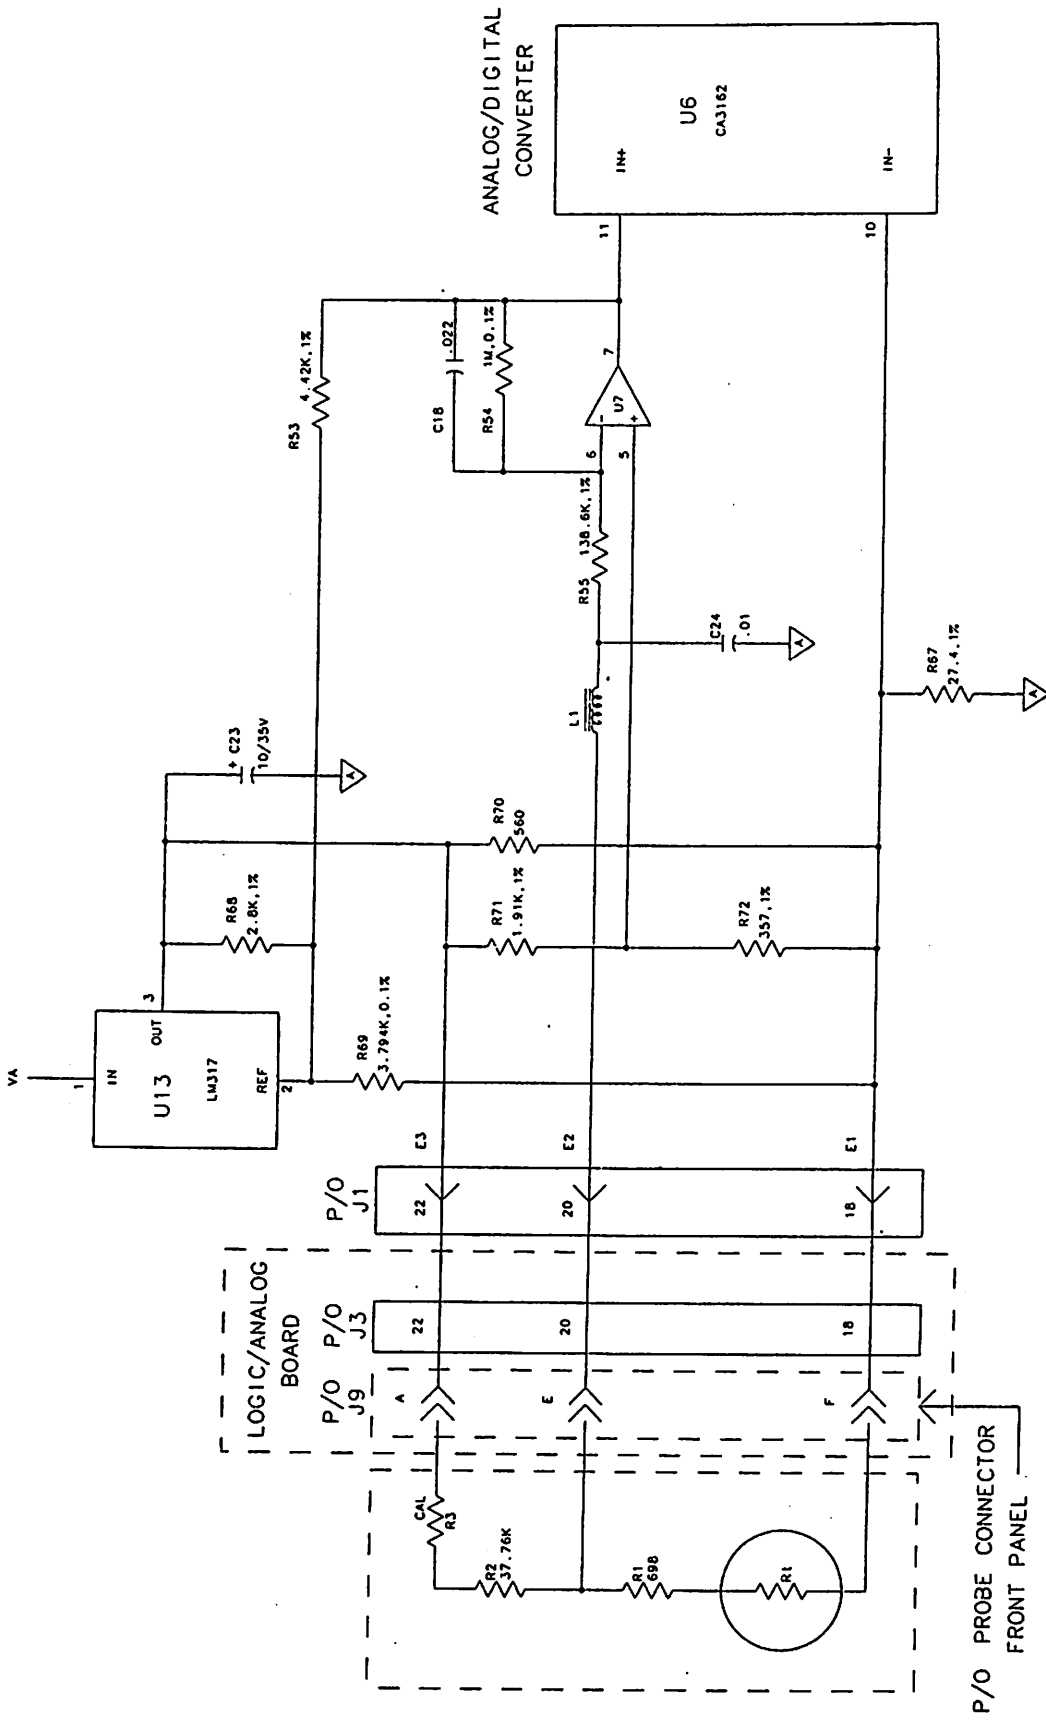

Figure 3-34. Analog Input and Linearizer
3.10.3 Analog Input and Linearizer (figure 3-34)